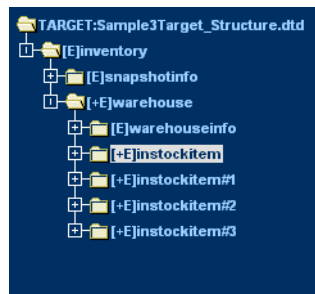

Figure 24-4. You now have three copies of the `instockitem` folder in your target.
- 5 You will now have three extra copies of the `instockitem` folder, indicated by the #1, #2, and #3 at the end of their folder names (see Figure 24-4 below).